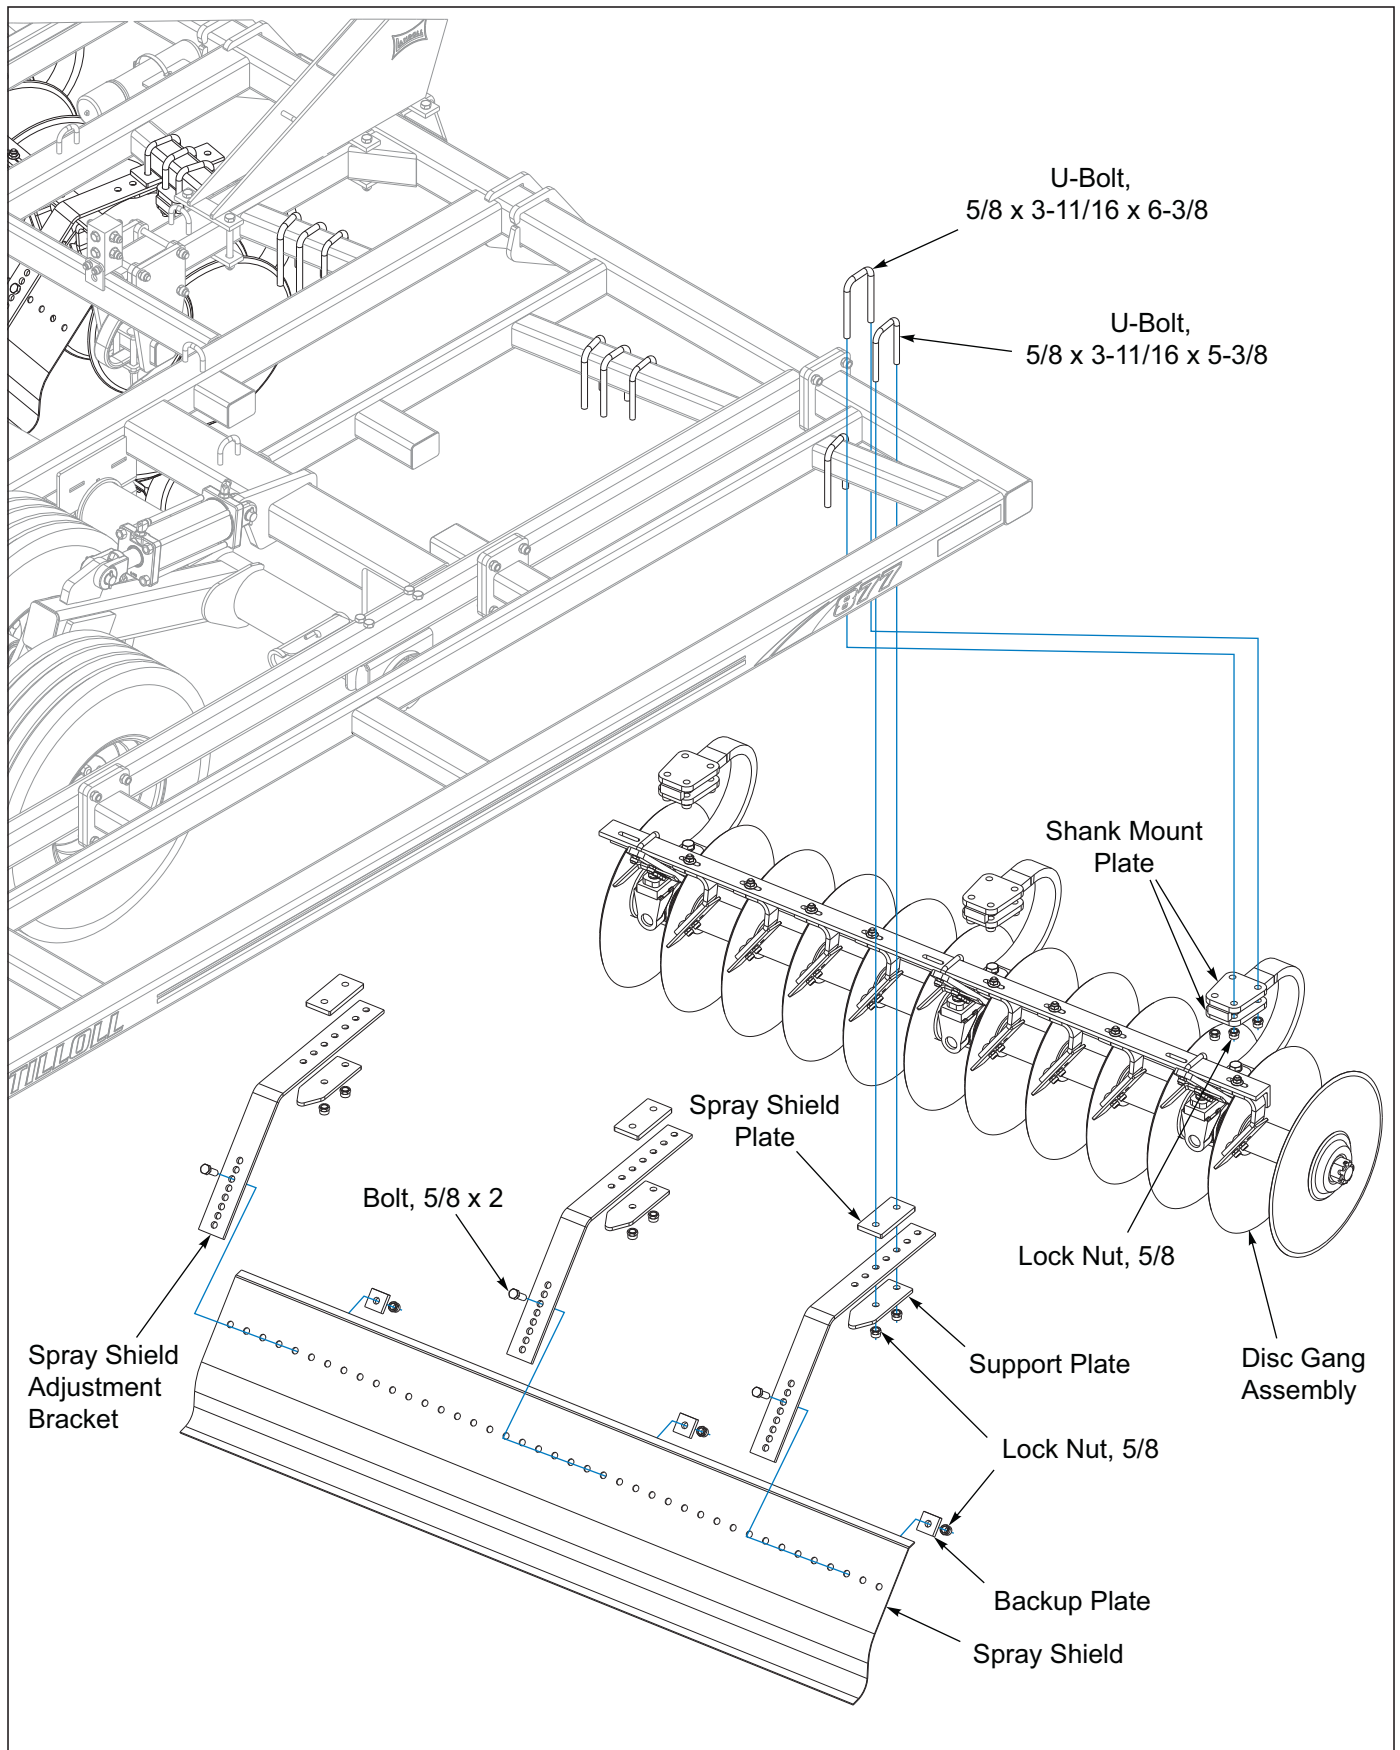

Figure 3-5: Disc Gang And Spray Shield Installation
3. Install disc gangs on center frame using shank mount plates, 5/8 x 3-11/16 x 6-3/8 u-bolts and 5/8 lock nuts **See Figures 3-5**.
4. Attach spray shield adjustment bracket to frame, as shown for your model size, using 5/8 x 3-11/16 x 5-3/8 u-bolt, bracket clamp, and 5/8 lock nuts **See Figures 3-5**. These brackets are attached to frame as shown to incline the shields toward the middle of the machine and carry soil back to center of the main frame. The bracket clamp is installed between adjustment bracket and bottom of frame tube and support plate is installed on the bottom of the adjustment bracket, **See Figure 2-6** for location on frame.
5. Attach spray shield to adjustment bracket, as shown in **Figures 3-5** using 5/8-11 x 2 bolt, backup plate, and 5/8 lock nuts. Shields attached in position shown in **See Figure 2-6** should be set to allow the machine to operate from 3-5 inches deep. Tighten all spray shield screws and u-bolts.